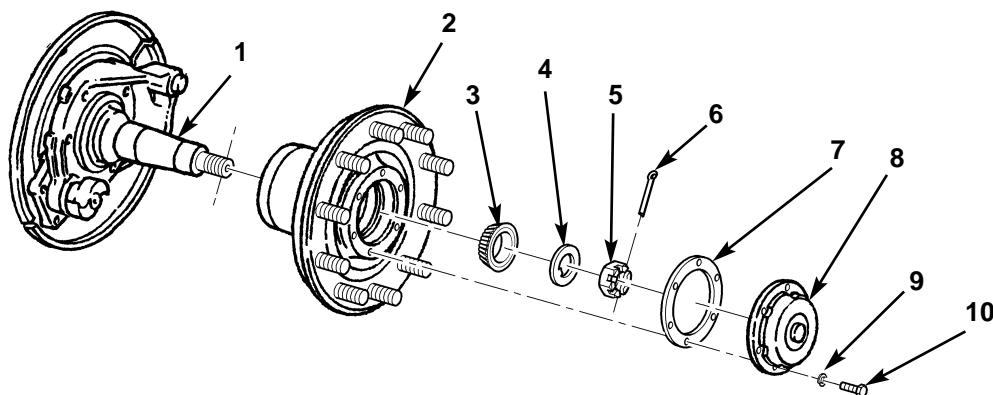

Figure 22. Removing Front Hub.
6. Position clean, dry drain pan under front hub (figure 22, item 2), and remove six bolts (figure 22, item 10), lockwashers (figure 22, item 9), cap (figure 22, item 8), and gasket (figure 22, item 7) from front hub (figure 22, item 2). Discard gasket (figure 22, item 7), lockwashers (figure 22, item 9), bolts (figure 22, item 10), and cap (figure 22, item 8).
7. Remove cotter pin (figure 22, item 6), slotted nut (figure 22, item 5), and key washer (figure 22, item 4) from spindle (figure 22, item 1). Discard cotter pin (figure 22, item 6).
8. Remove outer bearing cone (figure 22, item 3), and front hub (figure 22, item 2) from spindle (figure 22, item 1).